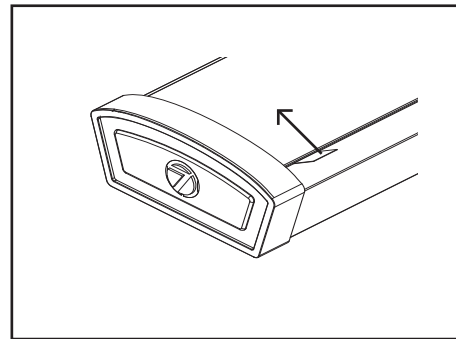

Figure 1
1. Remove diffuser (2) from housing (1) – locate removal tape attached to diffuser near one end of housing; grasp tape and pull upward to release diffuser from housing. Carefully remove diffuser from housing. -See Fig 1.
2. Locate the hardware pack – Check that all parts are included. See Page (3). Warning: Safely dispose of packaging materials.
- Retirez le diffuseur (2) du boîtier (1) – repérez le ruban d'élimination sur le diffuseur proche d'une extrémité du boîtier; saisissez le ruban puis tirez afin de retirer le diffuseur du boîtier. Avec précaution, retirez le diffuseur du boîtier. – Voir figure 1
1. Remove diffuser (2) from housing (1) – locate removal tape attached to diffuser near one end of housing; grasp tape and pull upward to release diffuser from housing. Carefully remove diffuser from housing. -See Fig 1